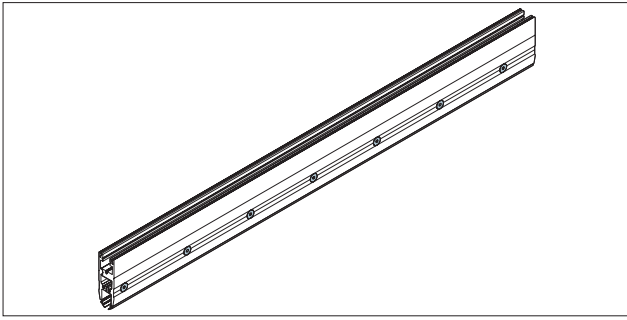

Fig. 7 Door rail boltings
- Loosen the boltings on the door rails (Fig. 7).